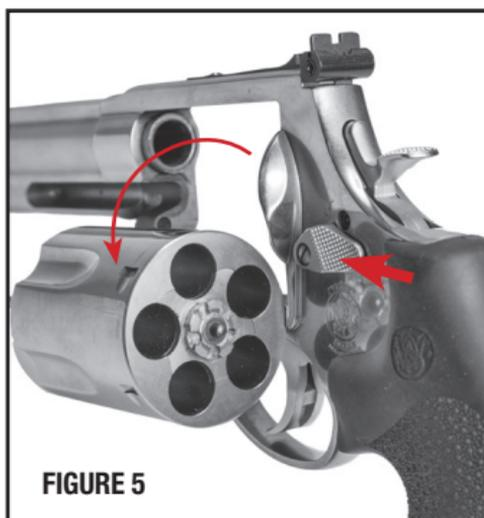

FIGURE 5
- With your finger off the trigger and outside of the trigger guard (FIGURE 4), keep the barrel of the firearm pointed in a safe direction. Press the thumbpiece fully forward and hold it, then push the cylinder to the left (FIGURE 5).